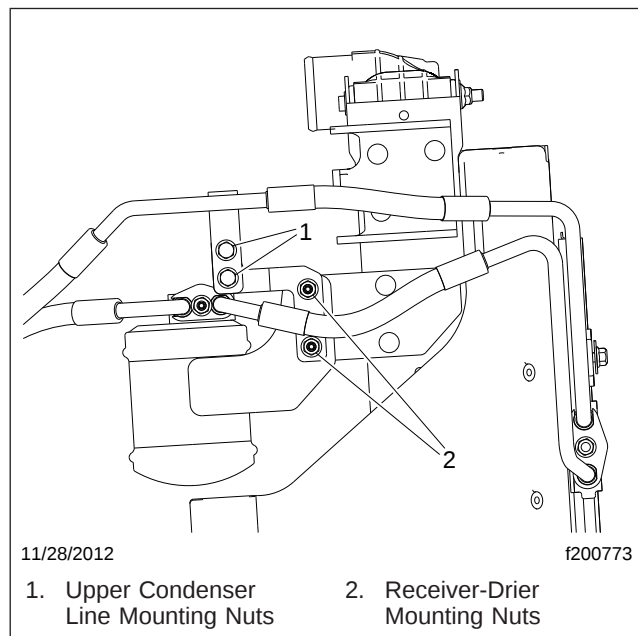

Fig. 10, Receiver-Drier Installation (typical)
- 10.1 Remove the receiver-drier and upper condenser line mounting nuts, then free the receiver-drier. See Fig. 10.
37.2 Position the receiver-drier and upper A/C line on their respective brackets and install the mounting nuts. See Fig. 10. Tighten the nuts 14 to 16 lbf·ft (19 to 22 N·m).